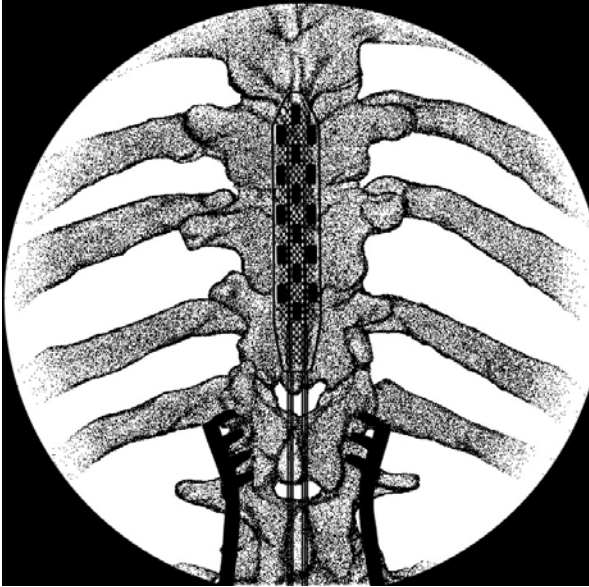

FIGURE 32
- 8 Verify the lead position under fluoroscopy (AP and lateral views) (FIGURE 32).